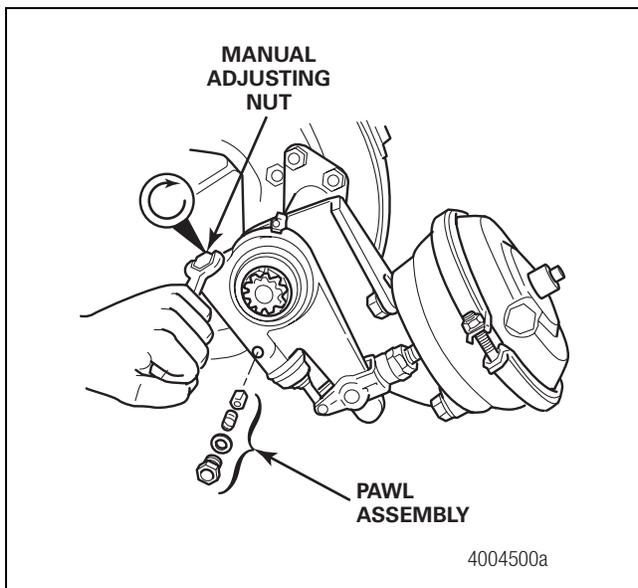
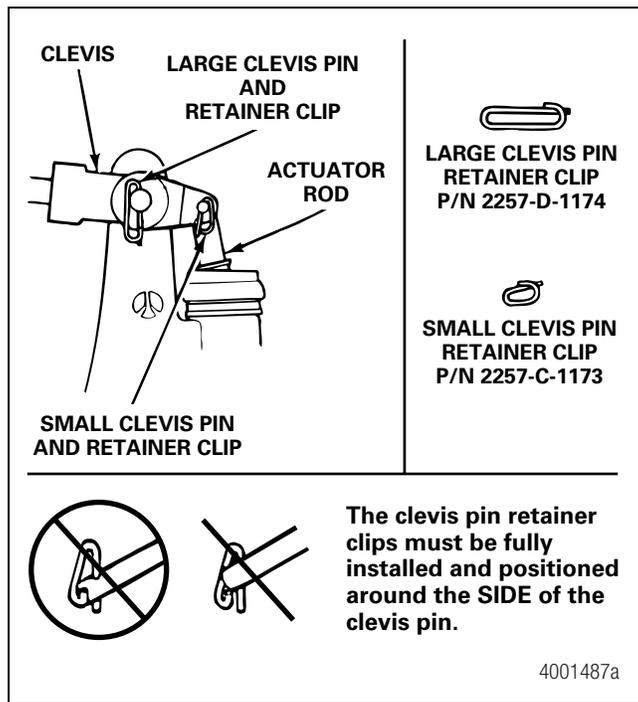

Figure 5.8
Figure 5.9
- Remove the pawl assembly and align the slack adjuster arm with the clevis. Turn the manual adjusting nut to the left until the clevis pin hole in the slack adjuster arm is aligned with the large hole in the clevis. Assemble with the large clevis pin and fasten with a cotter pin. Figure 5.8 and Figure 5.9.